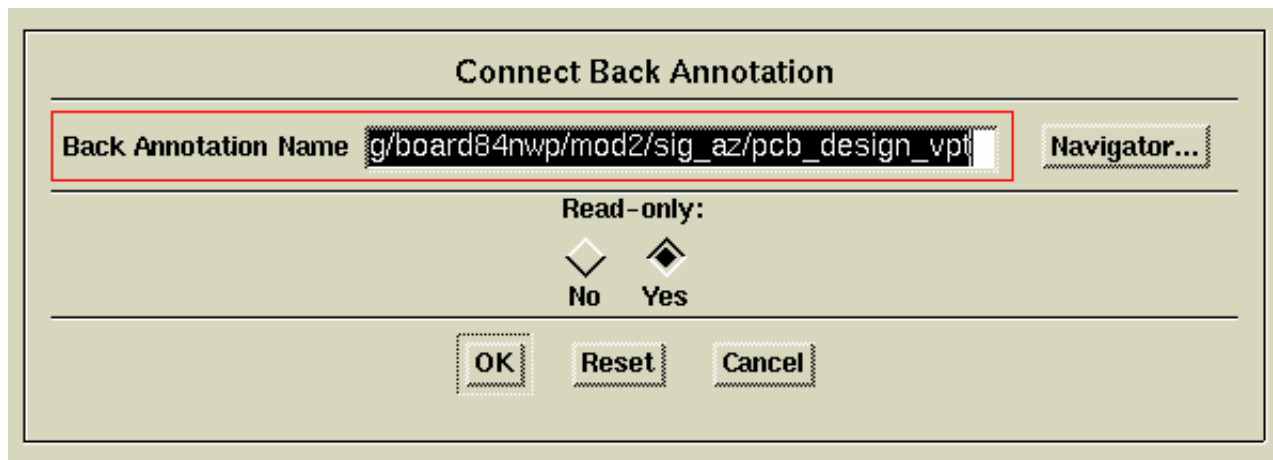

Figure 3-10. Connect Back Annotation Dialog Box
6. Click the **Read-only: Yes** button, and **OK** the dialog box, as shown in Figure 3-10.